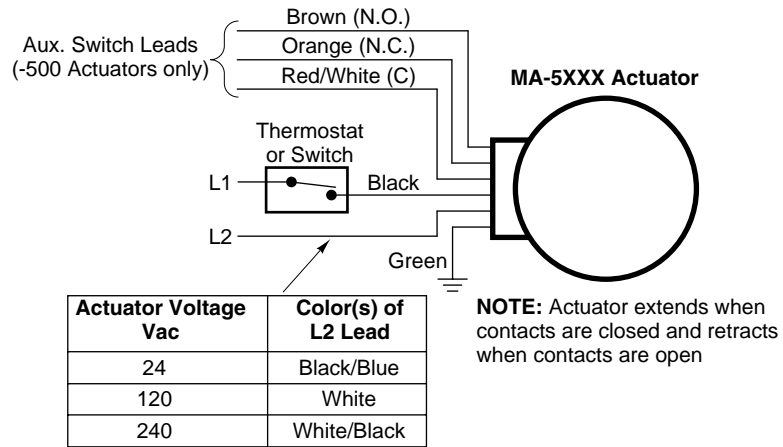
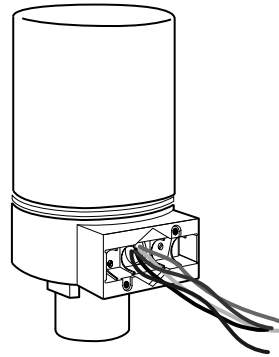

Figure-1 Typical Wiring for MA-5xxx Series Actuators.
Figure-4 Connection of Wire Leads (No Conduit).
Make connections as required. Refer to Figure-1 for a wiring diagram of a typical application. Refer to Figure-4 for a view of the actuator.
3. Make the required connections. Refer to Figure-1 for a wiring diagram of a typical application.